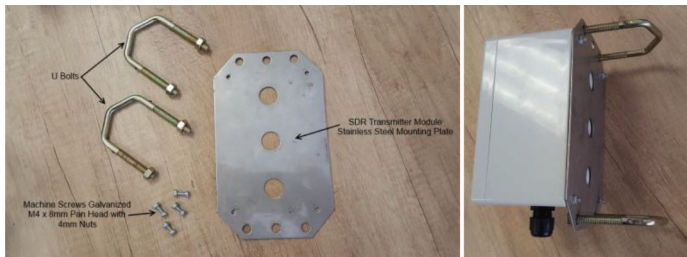

Figure 12
- Install the transmitter modules stainless steel mounting plate using four M4 x 8mm pan head galvanized or stainless steel machine screws and four M4 nuts. Fit the mounting plate to the transmitter module using the four mounting holes provided in the corners of the box. See figure 12.